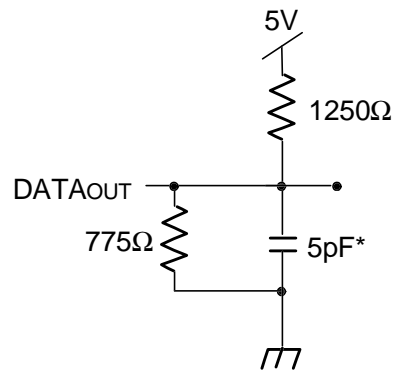

Figure 2. Output Test Load
1. Transition is measured  $\pm 500\text{mV}$  from Low or High-Impedance Voltage Output Test Load (Figure 2).
1. Transition is measured  $\pm 500\text{mV}$  from Low or High-impedance voltage with Output Test Load (Figure 2). This parameter is guaranteed by device characterization but is not production tested.